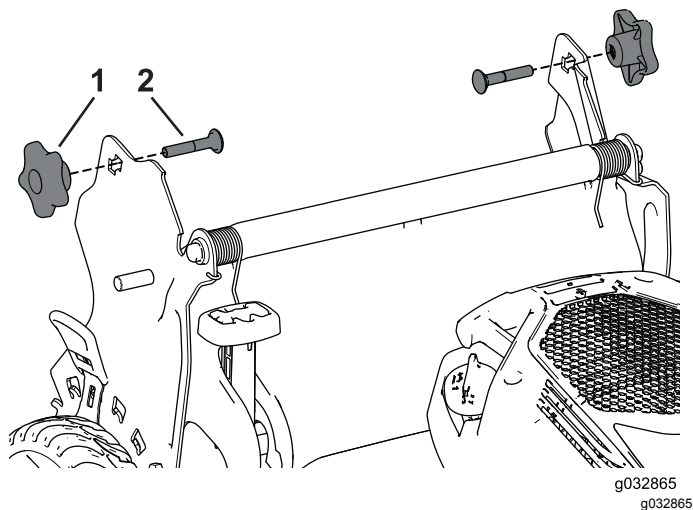

Figure 26
3. Insert the carriage bolt (with the bolt head toward the inside) through the handle bracket and the upper hole in the handle end. Ensure that the square edges of each carriage bolt fits into the upper or lower square hole in its related handle bracket (Figure 26).